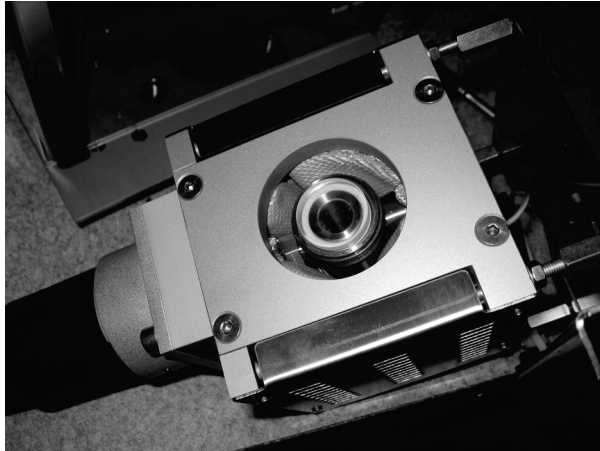

Figure 10 Fully installed cell window
10. If appropriate, remove the plastic protective cover from the window (Figure 10). Ensure that the window is centered in the holder.